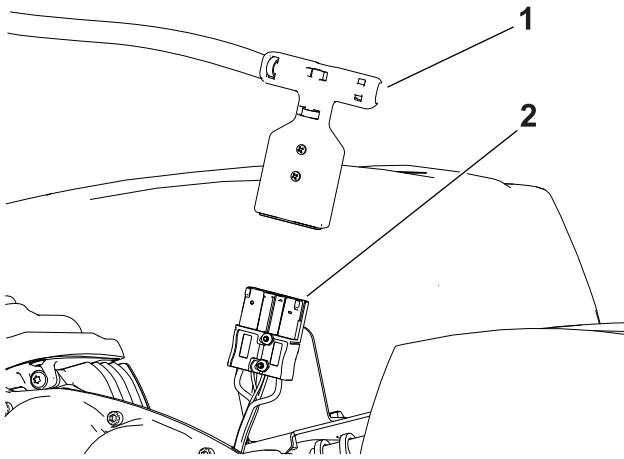

Figure 27
5. Disconnect the battery by pulling the T-handle connector off of the main-power-supply connector (Figure 27).